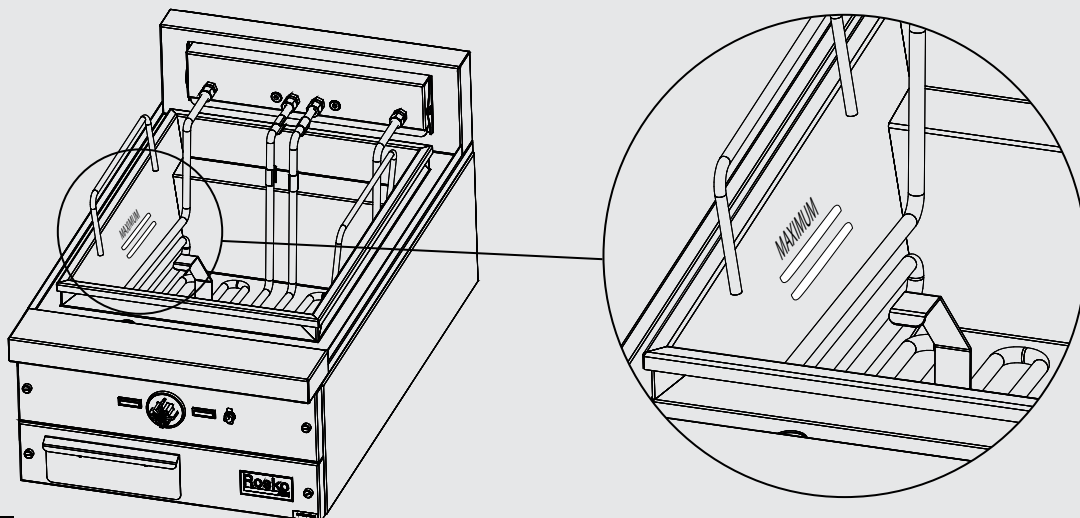

Figure 8
3. Fill the tank with melted oil or grease to the level marked by the engravings on the tank wall. **(Figure 8)**